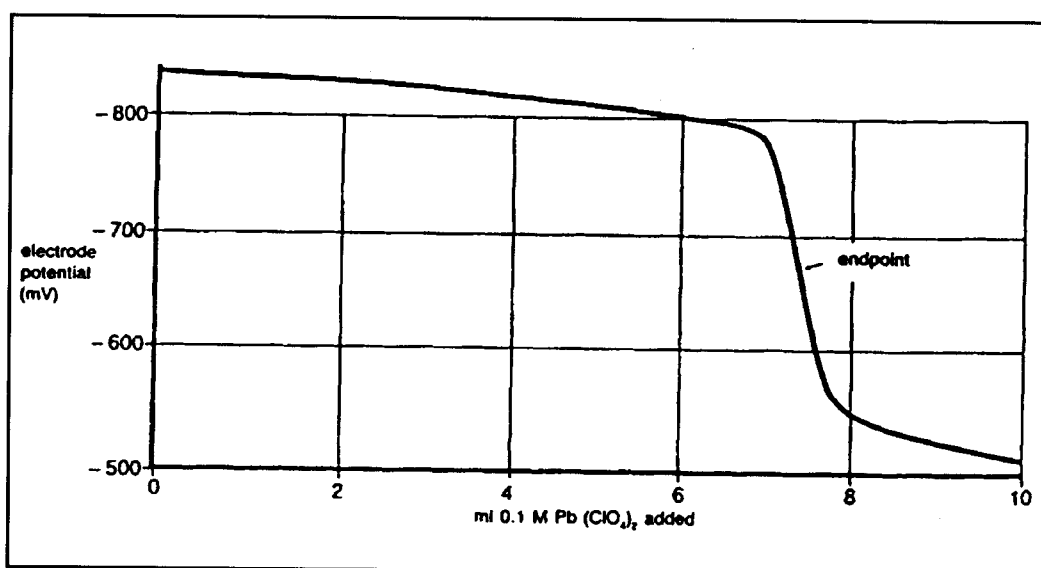

Figure 3. Typical Titration of 25 mL of 0.03 M Sulfide with 0.1 M  $\text{Pb}(\text{ClO}_4)_2$
4. Using linear graph paper, plot the mV readings (y-axis) against the volume (x-axis). The endpoint is determined at the steepest slope on the titration curve, as illustrated in Figure 3.
4. Using linear graph paper, plot the mV readings (y-axis) against the volume (x-axis). The endpoint is determined at the steepest slope on the titration curve as illustrated in Figure 3.